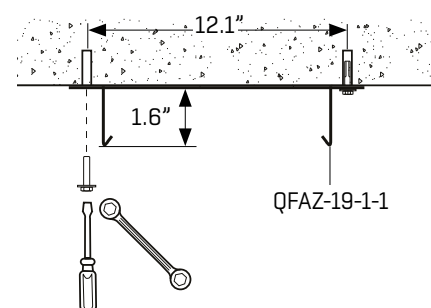

FIGURE 10
- 1) Secure the low-build fastening bracket to the ceiling. (See **FIGURE 10**)